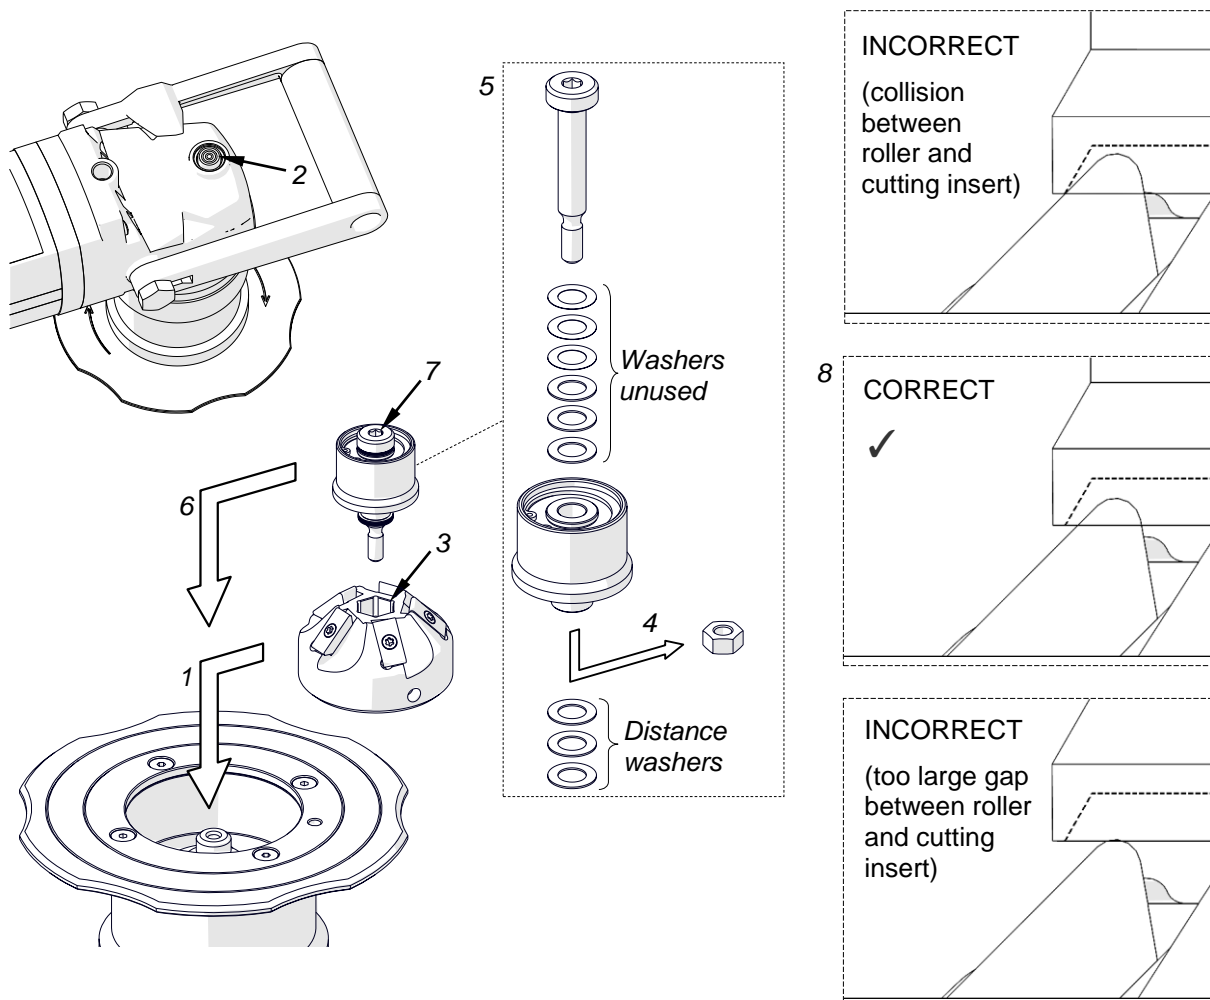

Fig. 2. Installing the milling head
Unplug the machine from the power source. To install the milling head, place it on the spindle (1, Fig. 2), and then press and hold the spindle lock button (2) and tighten the head with the 14 mm hex wrench (3). Next, remove the nut (4) and assemble the roller with the pivot pin by using washers (5), and then place the roller on the milling head (6), press and hold the button (2), and tighten the roller with the 5 mm hex wrench (7). Use such a number of 0.5-mm and 0.1-mm washers to keep a little gap between the roller and cutting inserts (8). The number of washers needed depends on the milling head used.